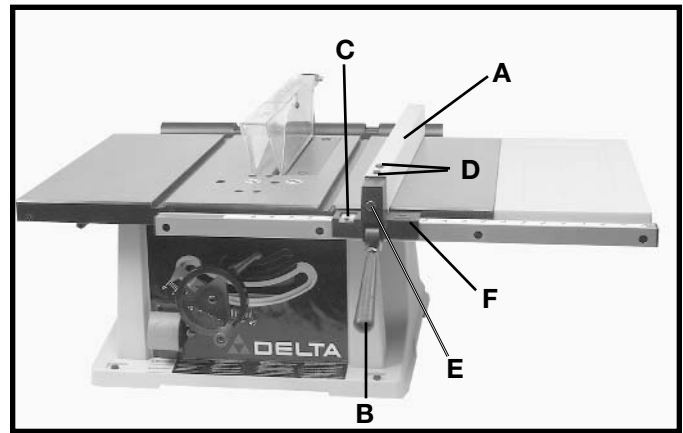

Fig.48
1. To move the rip fence (A) Fig. 48, along the table, lift up fence locking lever (B), slide the fence to the desired location on the table and push down fence locking lever (B) to lock the fence in position.
2. A pointer is supplied to indicate the distance the fence is positioned away from the saw blade. If an adjustment to the pointer is required, loosen the screw (C) Fig. 48, that fastens the pointer to the fence bracket and adjust the pointer accordingly. Then, tighten screw (C).
5. Position the fence at one end of the miter gage slot, as shown in Fig. 48. Clamp the fence to the table by pushing down the locking lever (B). The edge of the fence should then line up parallel with the miter gage slot.
7. Loosen the two screws (D) Fig. 48, and lift up locking lever (B). Then while holding the fence bracket (F) firmly toward the front of the saw, move the rear end of the fence (A) until it is parallel with the miter gage slot. Then tighten two screws (D) and push down locking lever (B).
8. The clamping action of the fence (A) Fig. 48, can be adjusted by lifting up locking lever (B) and turning screw (E) clockwise to increase or counterclockwise to decrease the clamping action of the fence.